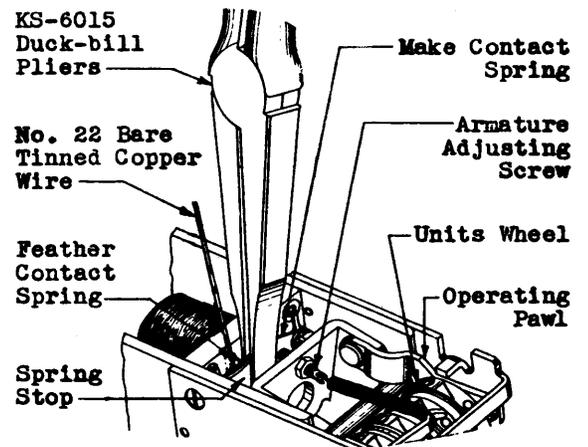

Fig. 14 – Method of Increasing Contact Separation
- (3) If the units wheel is advanced too far, if the operating pawl binds on the overthrow stop, or if the operating pawl does not drop into its normal position in front of a tooth on a register not equipped with an armature bracket adjusting screw or a pawl screw (see Fig. 14), or if the required adjustment cannot be obtained by adjusting the armature bracket adjusting screw or pawl screw on registers equipped with such adjusting screws, proceed as follows. Obtain access to the parts of the register as covered in 3.002 and unhook the retractile spring from the retractile spring lug. Loosen the locknut on the armature adjusting screw with the No. 403A socket wrench and turn the screw in (clockwise) with the long-nose pliers until the operating pawl assumes a satisfactory position. Tighten the locknut securely. Check the adjustment of the register as covered in (4) and (5), and then reconnect the retractile spring to the retractile spring lug, exercising care not to damage the retractile spring.
- (4) Ascertain that the operating pawl is capable of advancing the units wheel to the next position and also that the stop pawl drops into position behind the ratchet wheel tooth as the units wheel advances. If the units wheel does not advance enough to meet requirement 2.02, or if the stop pawl does not drop into position as specified in requirement 2.03, adjust the armature bracket adjusting screw, or the pawl screw, or the armature adjusting screw in a direction opposite that specified in (1), (2) or (3) until the condition is corrected and then adjust the overthrow stop
- (1) In adjusting to meet the contact separation requirements obtain access to the parts of the register as covered in 3.002.
- (2) If the register is equipped with make contacts and the contact separation is too small, insert a piece of No. 22 bare tinned copper wire between the feather contact spring and the spring stop close to the point where the spring is fastened to the spoolhead. Place the duckbill pliers over the spring and spring stop as shown in Fig. 14 and compress the pliers.